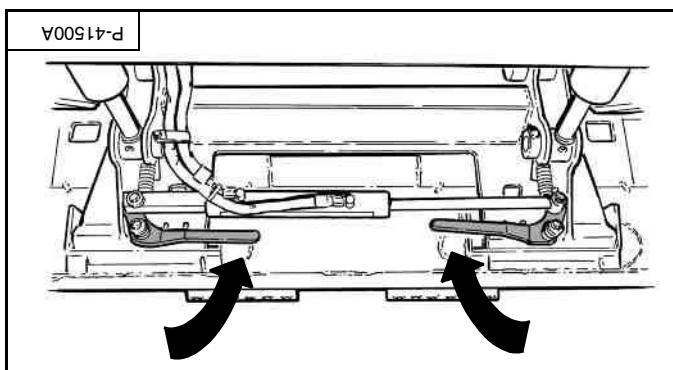
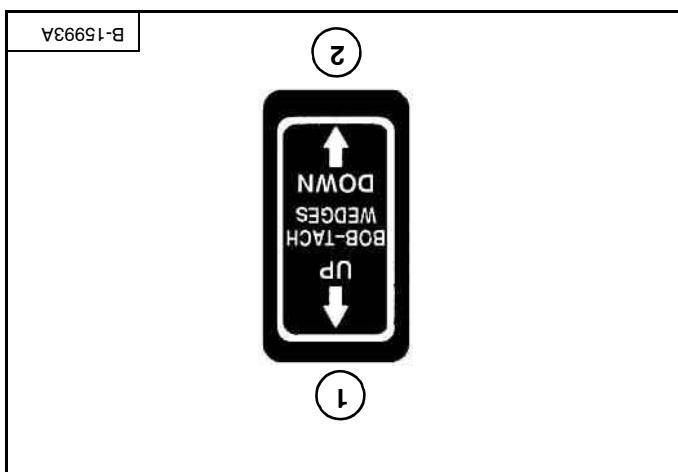

Figure 32
Figure 31
Push and hold the BOB-TACH "WEDGES DOWN" switch (item 2) [Figure 31] until the levers are fully engaged in the locked position [Figure 32] (wedges fully extended through the attachment mounting frame holes).
Push and hold the BOB-TACH "WEDGES UP" switch (item 1) [Figure 31] until the levers are fully raised (wedges fully raised before installing the attachment).